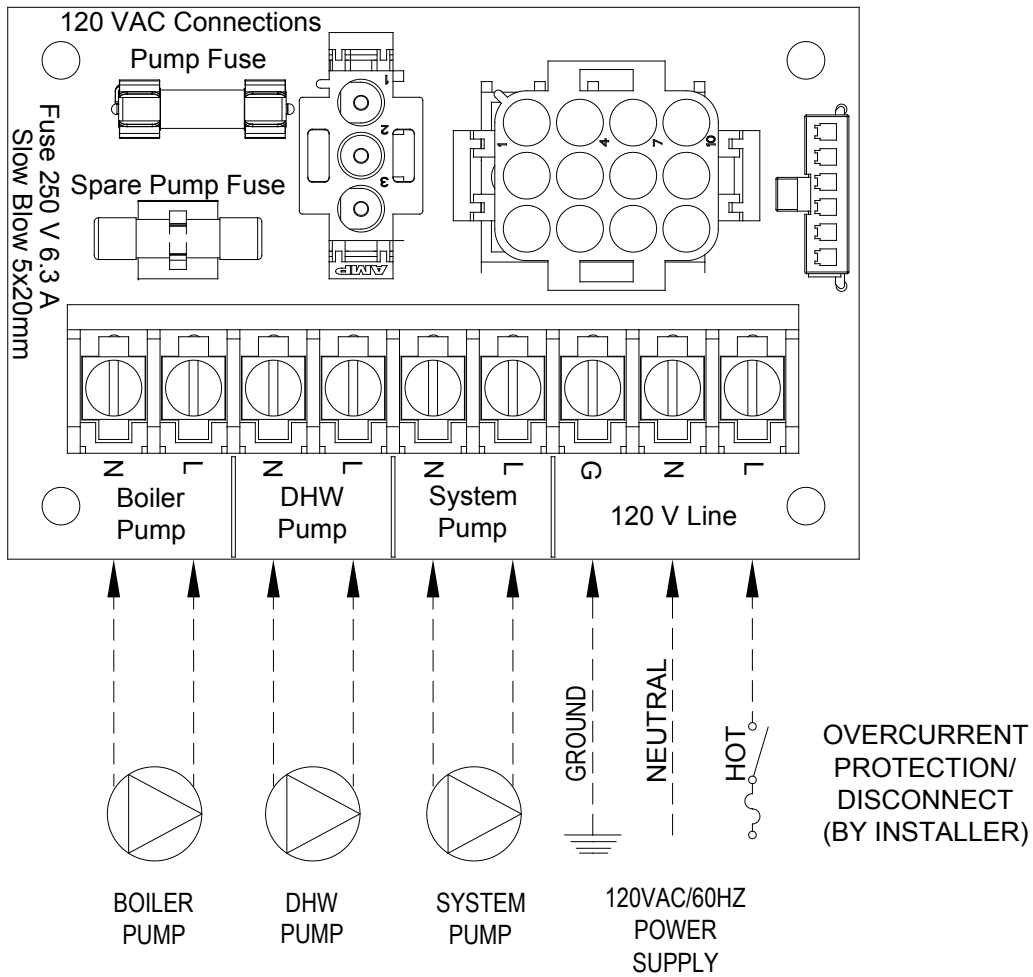

Figure 10.2: High Voltage PCB Terminal Connections
1. Line Voltage (120 VAC) Field Connections – See Figure 10.2 for line voltage connections. Provide a dedicated circuit for the boiler of 15A or greater. A service switch is recommended and is required by many local codes. Locate this switch in accordance with local codes or, in the absence of any, in a location where it can be safely accessed in an emergency involving the boiler. All 120VAC connections to the boiler itself are made on the terminal strip on the high voltage PCB located on the left side of the wiring compartment. 120VAC connections on the terminal strip are: